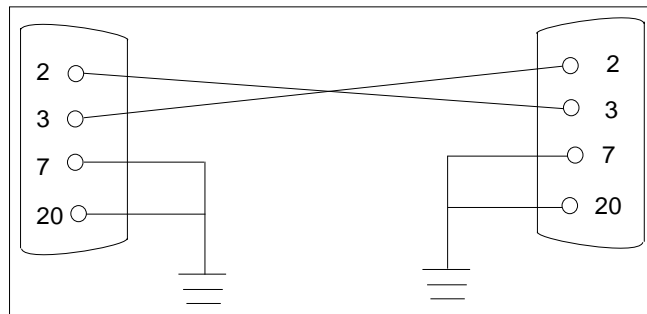

FIGURE 3-1 Setting Up a Tip Connection
1. **Prior to powering on the system, press and hold the Stop key on the keyboard (FIGURE 3-1 on page 3-3).**